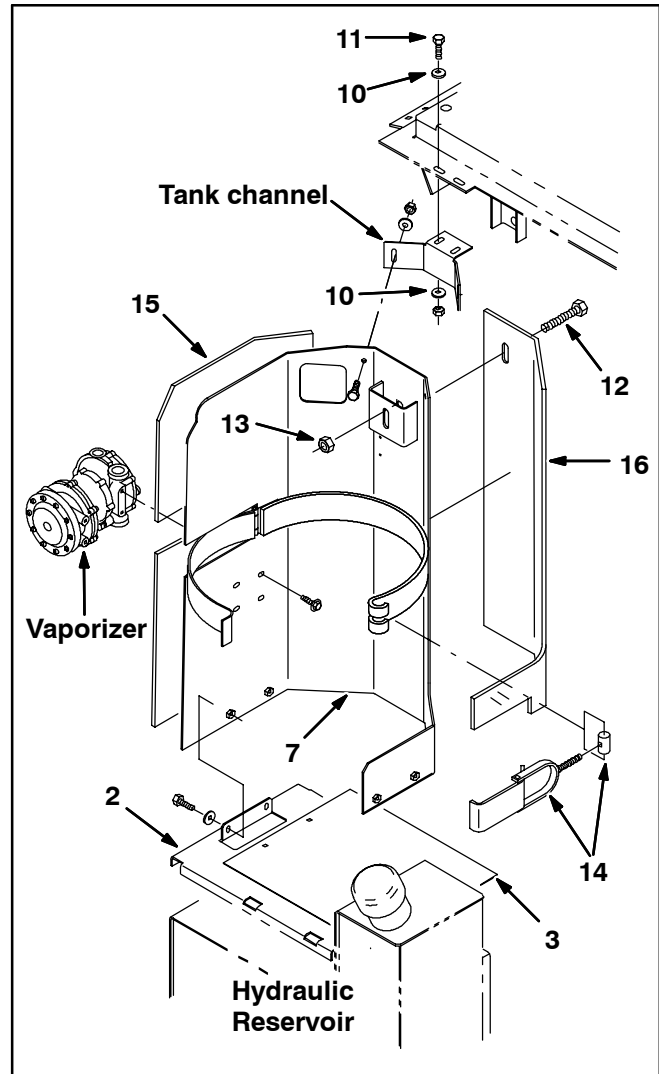

FIG. 2
7. Use rivets (9) to mount LP data plate (8) to the new tank channel weldment (7).
8. Install the acoustic insulation (15) and (16) onto the new tank channel weldment (7). (Refer to FIG. 2)
9. Mount the new tank channel weldment (7) to the tank channel and the base (2) with mounting hardware. (Refer to FIG. 2 and 6)
10. Connect the vaporizer to the new tank channel weldment (7) with set aside hardware. (Refer to FIG. 2)
11. Install the tank latch assembly (14) onto the tank channel weldment (7). (Refer to FIG. 2)
12. Place the LPG tank into the tank channel weldment (7) and secure tank into place with the tank latch assembly (14) and a hex screw (12) and hex nut (13). (Refer to FIG. 2)